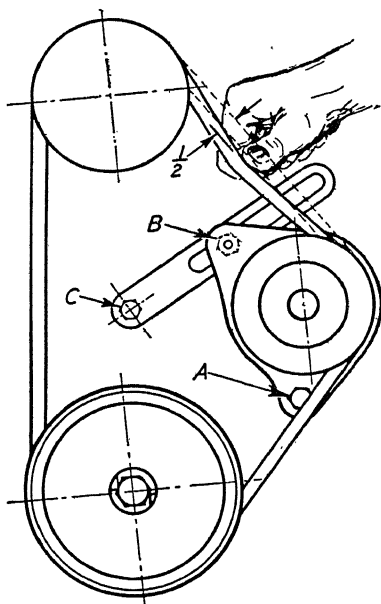

Fig. 15. Buick Fan Belt Adjustment
*Buick Fan Belt.* A V-type belt, illustrated in Fig. 15, is used as the water pump fan and generator from a pulley attached to the front end of the crankshaft. It is necessary that the belt be adjusted so that it will deflect approximately  $\frac{1}{2}$  inch, as shown in Fig. 15. Only a light pressure should be required to secure this deflection. If the belt is too loose, it will slip and wear excessively. The loose belt may also cause a noise similar to a spark rap at high speed. If the fan belt is too tight, the generator and pump shaft bearings will wear rapidly. The Series 40 fan belt is  $\frac{25}{32}$  inch wide and the Series 60 - 80 - 90 fan belt is  $\frac{29}{32}$  inch wide.
When adjusting the fan belt, first loosen the lower and upper generator clamp bolts shown at *A*, *B*, and *C*, Fig. 15, a slight amount. Next, adjust the fan belt tensions to  $\frac{1}{2}$  inch, as shown, securing this deflection between the generator and fan pulleys. Next, retighten the upper clamp bolts *B* and recheck for tension. Finally clamp bolts *A*, front and rear, and *C*.